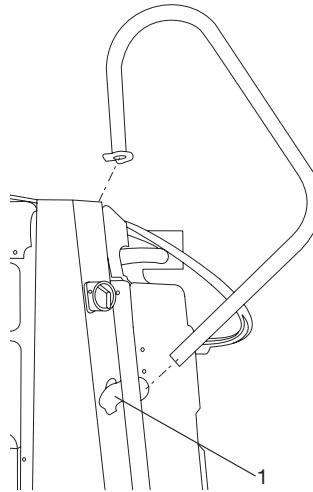

Fig. 11: Inserting handle in rubber mount
2. Attach the rubber mounts (Fig. 11, Pos. 1).